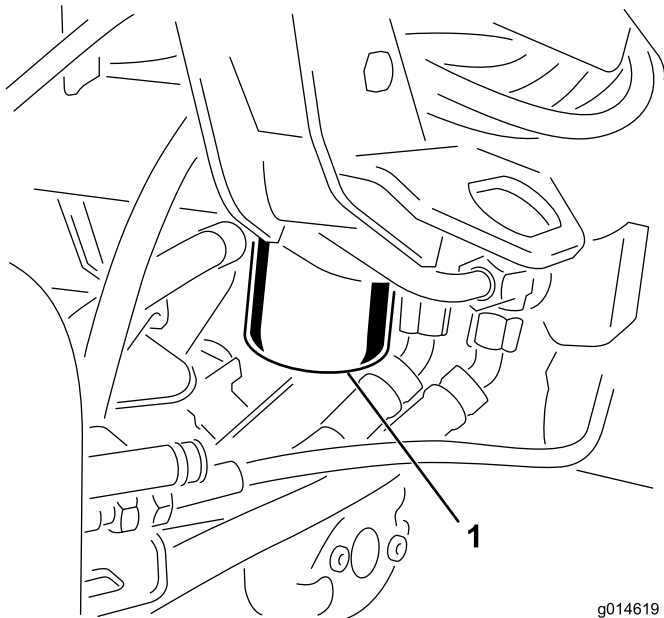

Figure 51
1. Clean the area around the filter mounting area (Figure 51). Place a drain pan under the filter and remove the filter.